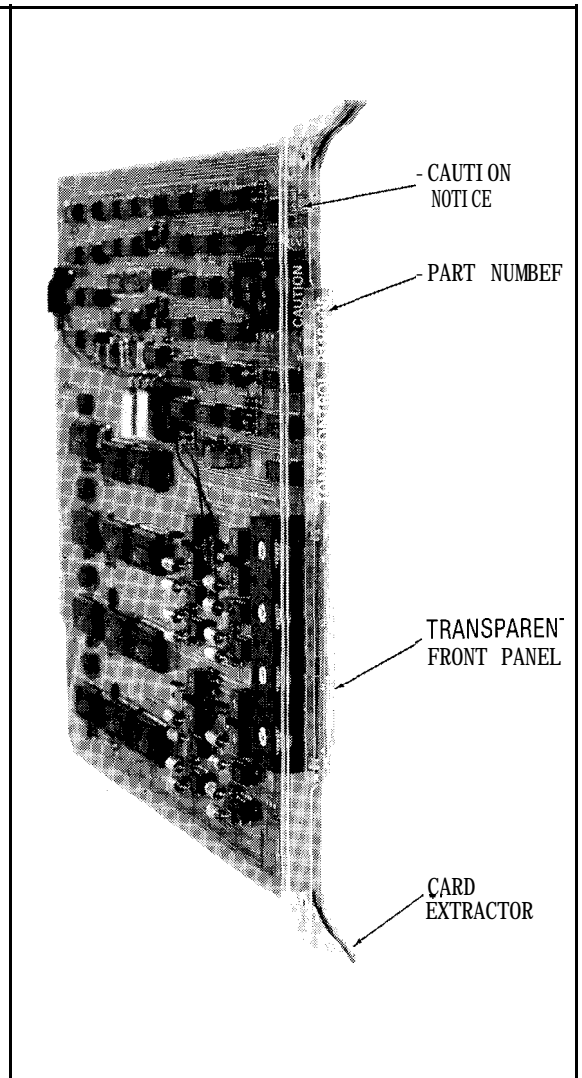

Fig. 3-7 Typical Printed Circuit Card
3.21 All circuit cards (Fig. 3-7) within the PABX are identical in construction and consist of a fiberglass board with printed wiring patterns on both of its faces. Riveted to the front of each board is a transparent faceplate which allows the LEDs mounted on the front of the boards to be easily seen. The two color-coded card extractors located at the top and bottom of the faceplate identify the card position within a shelf and ensure that the card is seated correctly in the backplane connector.